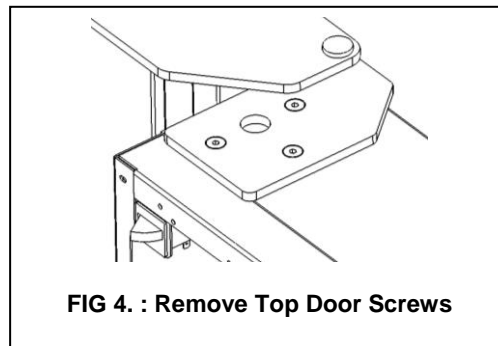

**FIG 2. : Disconnect harness plugs**
- Unplug the door harness and glass heater harness (option) from the power panel. (See Figure 2).